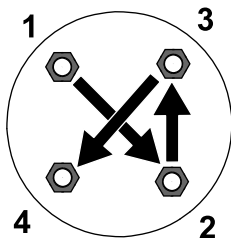

Figure 5
2. Torque the lugnuts (in a crossing pattern as shown in Figure 5) to 108 to 122 N·m (80 to 90 ft-lb).